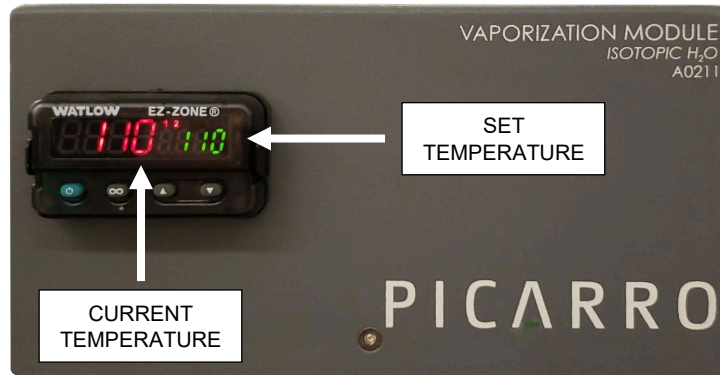

Figure 27: Vaporization Module Temperature Monitor Setpoint vs Actual Temp
2. Wait until the vaporizer temperature stabilizes before running samples (see Figure 27).